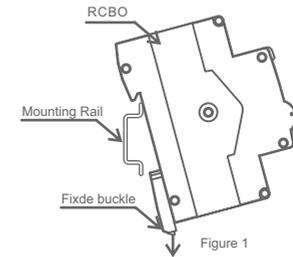
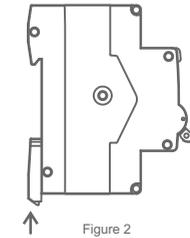

Figure 1
Figure 2
a. Installation: Pull the fixed buckle of the RCBO down in the direction of arrow 1 according to Figure 1, and then put the RCBO in align the rail with the upper end of the installation guide rail (see Figure 1), and ensure that the bottom of the RCBO is fully aligned with the installation guide rail. After that (see Figure 2), push the fixed buckle of the RCBO into the lower end of the installation guide rail according to the arrow direction in Figure 2 to release it.